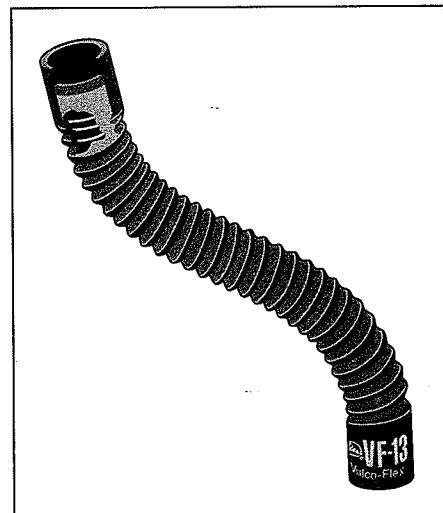

Figure 14-6:
- ✓ **If it's a *bottom* radiator hose:** The hose *must* have a wire coil inside it to help it keep its shape and withstand the vacuum caused by the water pump drawing water out of the radiator. In this case, look for a hose with a wire coil insert inside it (see Figure 14-6).